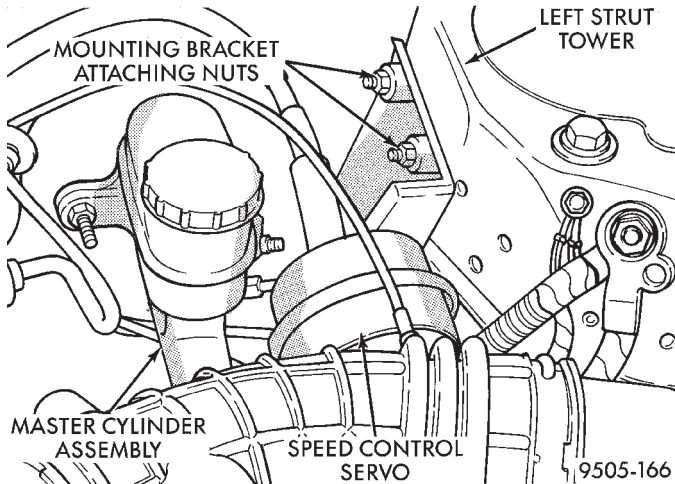

Fig. 90 Speed Control Servo Attachment
(3) If equipped, remove the vehicle's wiring harness connector from the speed control servo. Remove the 2 speed control servo mounting bracket to strut tower attaching nuts (Fig. 90). Without removing speed control cable from servo, move speed control servo out of the way.
(12) If equipped, install speed control servo on the mounting studs in the left strut tower (Fig. 90). Install the 2 speed control servo bracket mounting nuts (Fig. 90). Tighten the 2 mounting nuts to a torque of 6 N·m (55 in. lbs.).